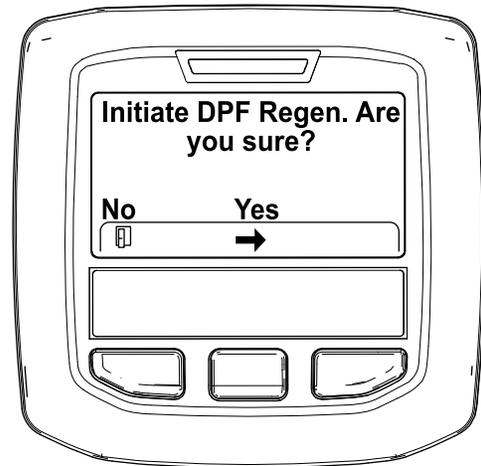

Figure 33
4. When the "Initiate DPF Regen. Are you sure?" message displays, press the center button (Figure 33).